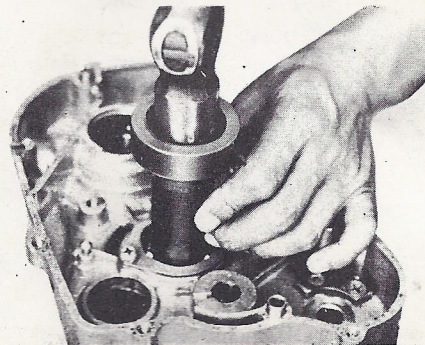

Fig. 3-17-3
- 2) Remove the bearing with bearing removing tool. (Fig. 3-17-3)